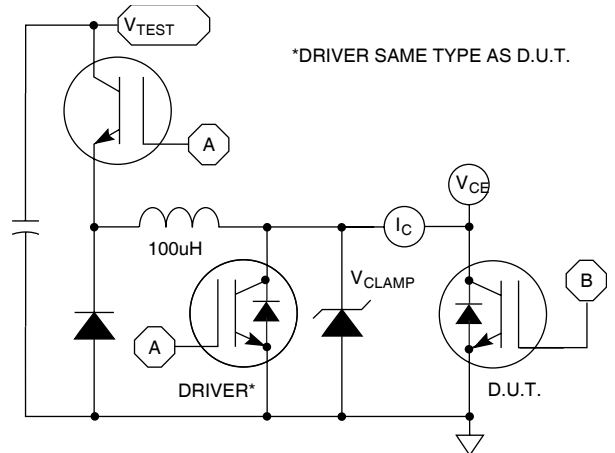

Figure 24, EON1 Test Circuit
- ① Repetitive Rating: Pulse width limited by maximum junction temperature.
- ② For Combi devices,  $I_{ces}$  includes both IGBT and Silicon Carbide Schottky leakages
- ③ See MIL-STD-750 Method 3471.
- ④  $E_{on1}$  is the clamped inductive turn-on-energy of the IGBT only, without the effect of a commutating diode reverse recovery current adding to the IGBT turn-on loss. (See Figure 24.)